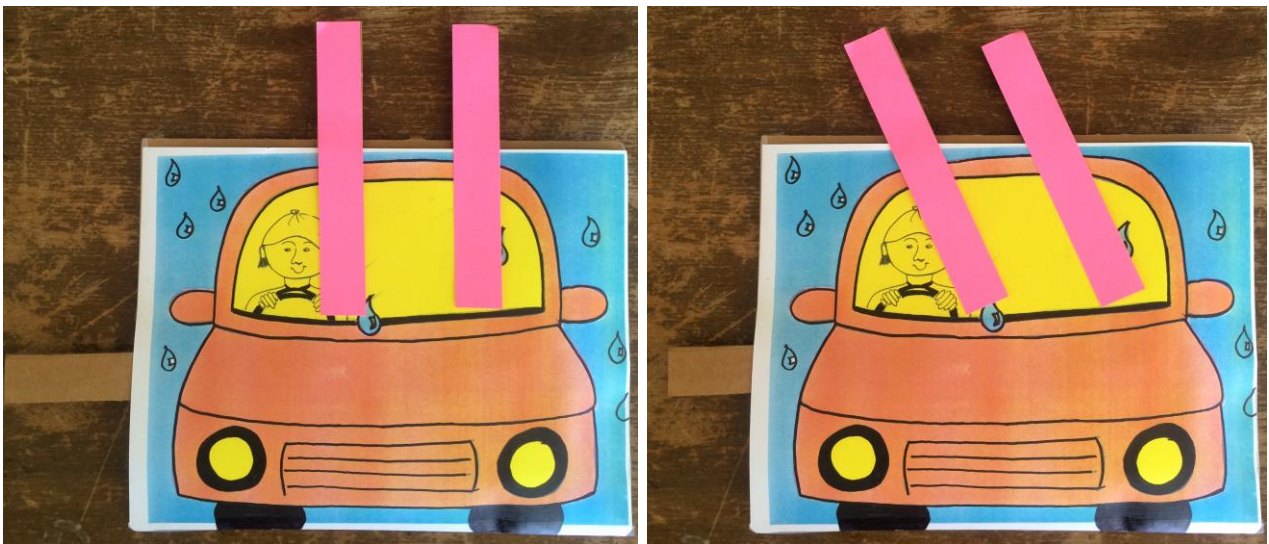

Figure 4: Windshield Wipers: both outputs move to the left when the input is moved to the right
- ✦ Make one of each of the two sample Windshield Wipers MechAnimations. In one, the wipers travel in the same directions, while in the other they go in opposite directions; see Figures 4 and 5. Directions for making these are on pp. 22 – 24.
1. **Windshield Wipers MechAnimations** (Whole class – 10 minutes): Demonstrate the Same-Direction Windshield Wipers MechAnimation several times. See Figure 4.